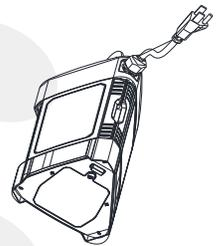

figure 4
**Step 4:** Install the silicone sleeve and battery cover successively, see Figure 4